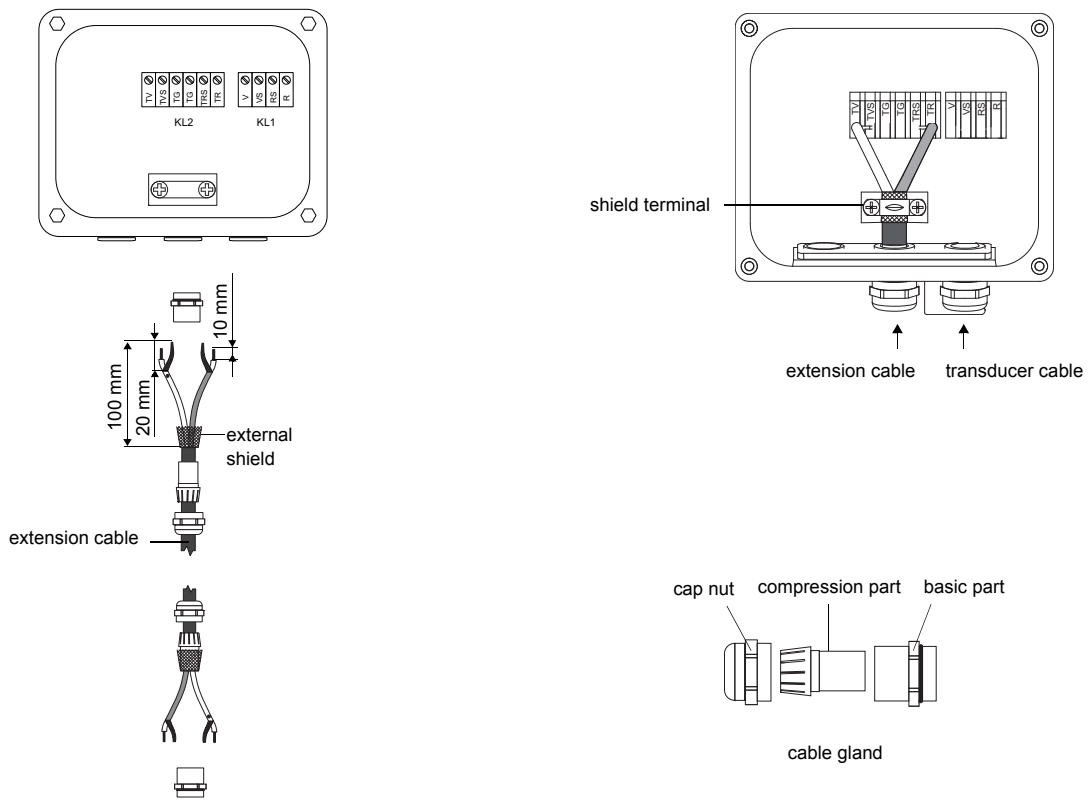

Fig. 7.12: Connection of the extension cable to the junction box
- Remove the blind plug for the connection of the extension cable (see Fig. 7.12).
- Pull the extension cable back until the brushed back external shield is below the shield terminal (see Fig. 7.12). The extension cable must remain completely insulated up to the shield terminal.
- Connect the extension cable to the terminals of the transmitter (see Fig. 7.12 and Tab. 7.7).